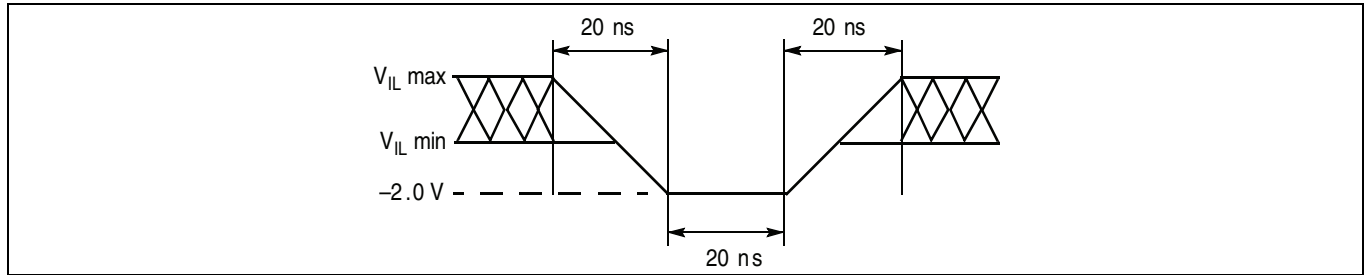
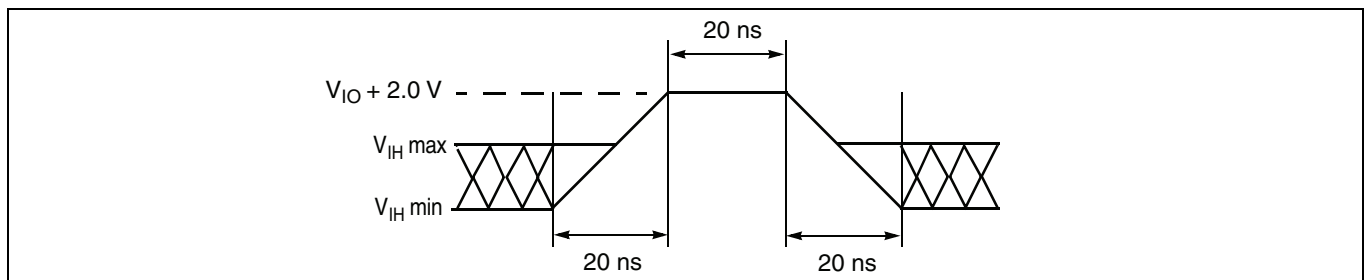

Figure 11 Maximum negative overshoot waveform
Figure 12 Maximum positive overshoot waveform
67. Minimum DC voltage on input or I/O pins is –0.5 V. During voltage transitions, input or I/O pins may undershoot V_{SS} to –2.0 V for periods of up to 20 ns. See Figure 11. Maximum DC voltage on input or I/O pins is $V_{CC} + 0.5$ V. During voltage transitions, input or I/O pins may overshoot to $V_{CC} + 2.0$ V for periods up to 20 ns. See Figure 12.